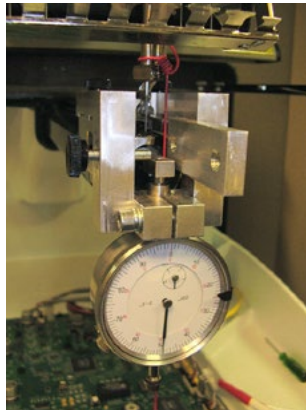

Figure 4 - Needle Clamp and Weight
7. With the indicator plunger in full contact with the needle, hang the 3 lb weight from the needle clamp as shown in Figure 4. Be sure its path is unrestricted and not touching the plunger.